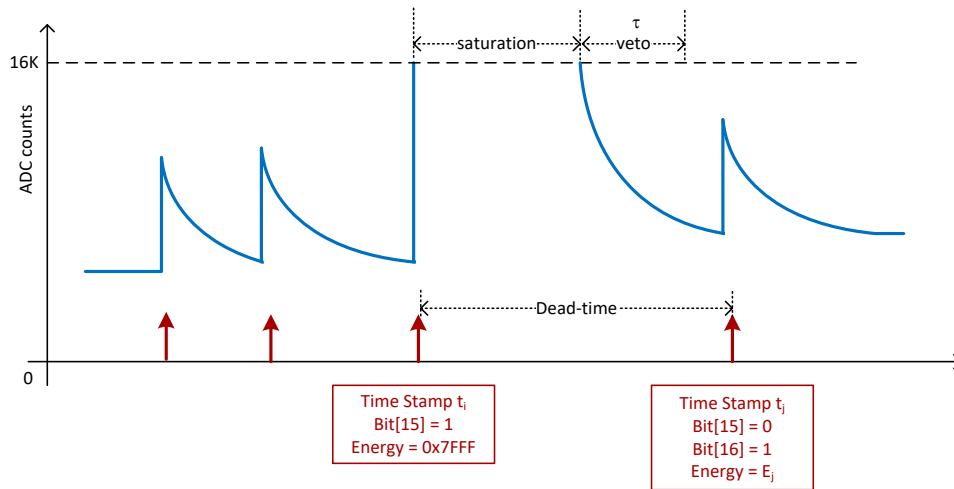

Fig. B.7: Dead-time in case of signal saturation.
3. DEAD_TIME in case of signal saturation (see **Fig. B.7**). If the input signal is over-range (exceeds the input dynamic range of 16k ADC channels) then the acquisition is inhibited. As soon as the input signal is in saturation an event is saved with the corresponding time stamp, and bit[15] set to 1. The energy value is set to the maximum. This event has to be discarded for the energy spectrum, anyway it can be considered for the dead-time calculation. Once the signal is out of saturation a new trigger is inhibited for a time window equal to the Decay Time. The first event after the saturation is tagged with bit[16] = 1.